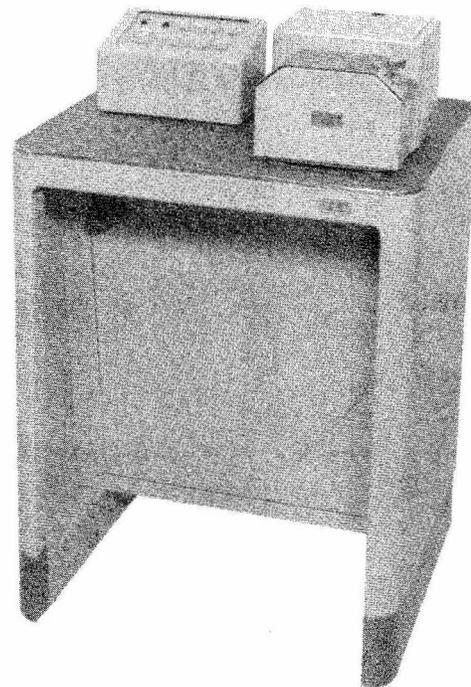

Figure 1 - Manual Message Address Segregator
4. Table (LT Type - Figures 1, 2 and 3).